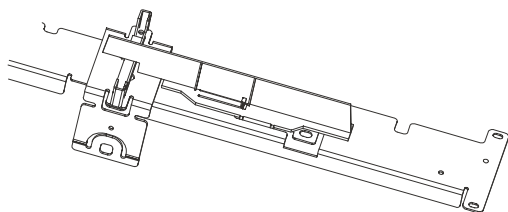

Figure 4
- 6 Move the fan deflector to the right of the plotter as shown in figures 4 & 5. You will hear a “click” sound when the deflector gets in its correct position.